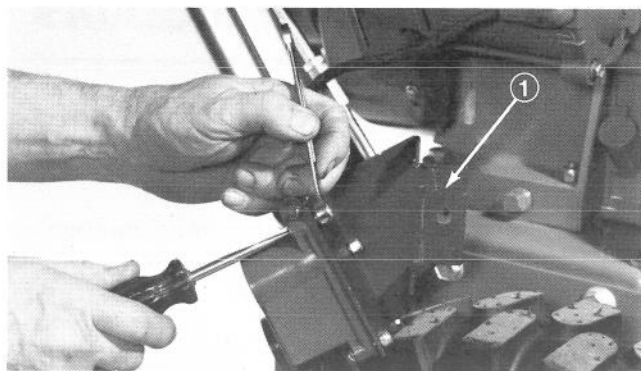

Figure 5
5. Install mounting bracket onto starter control (Fig. 5).